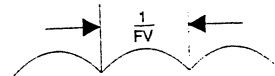
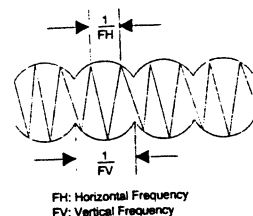

Figure 3-3 Voltage Correction Wave
Figure 3-4 Current Correction Wave
1. If the width of the border in the center of the screen is insufficient, the waveform shown in Figure 3-3 below, can be used to add to horizontal deflection B+ in order to change the deflection of the horizontal deflection circuit. This waveform is the parabola obtained after regulation of the vertical period, and is created to perform amplitude modulation on the horizontal deflection current, as shown in Figure 3-4.